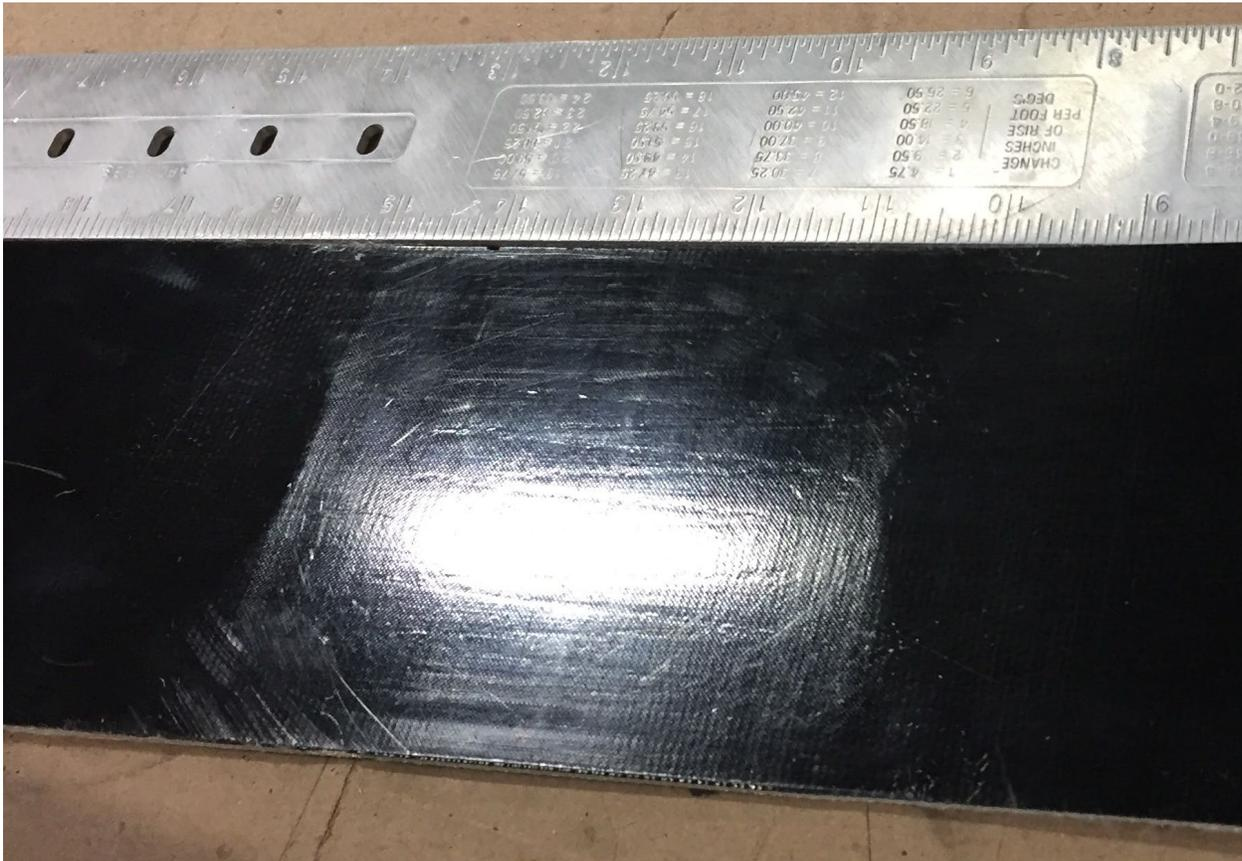

Figure 18: Completed Belt Splice
18. Inspect the splice on both sides of the belt for complete fusion. The outlines of the fingers should be fully fused and barely visible. See Figure 18: Completed Belt Splice for an example of a good splice.